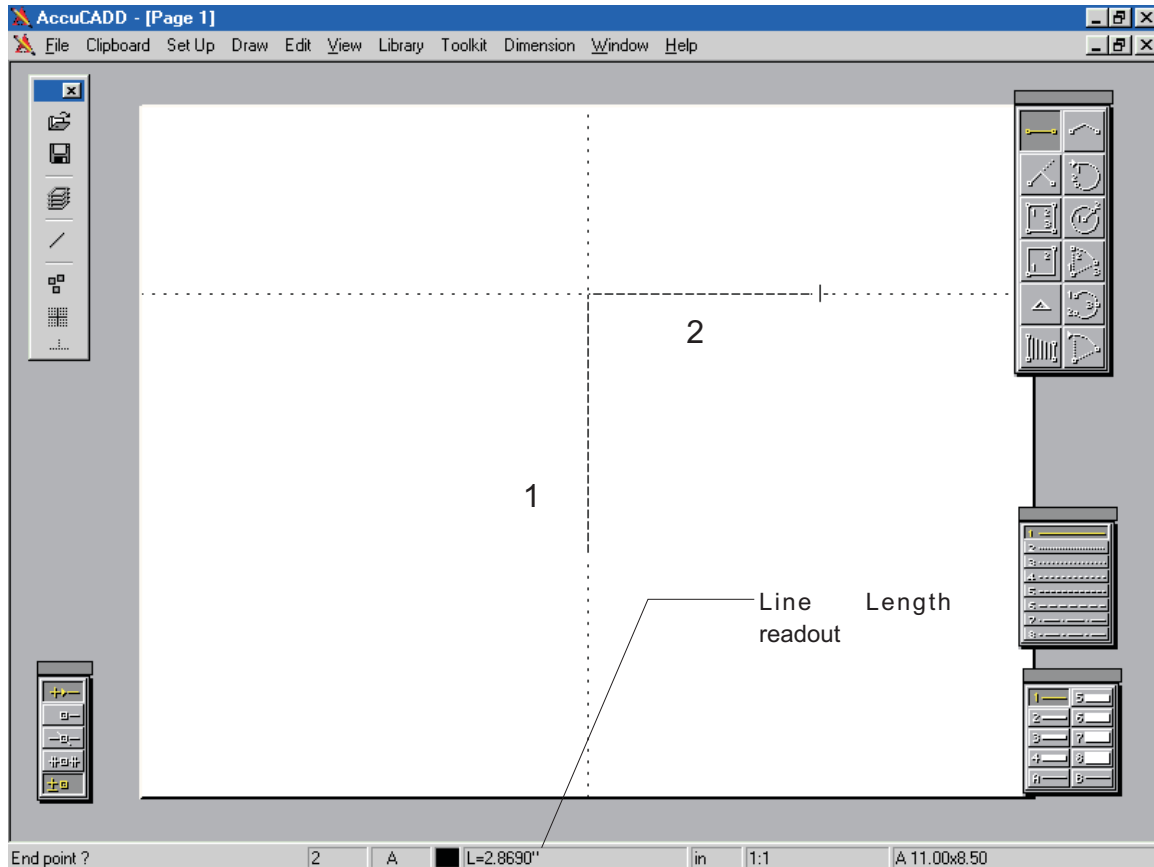

Figure 3: Continuous reporting of dimensions
[] Keep an eye on the dimension display at the bottom of the screen, move the + cursor vertically up from the triangle about 3 in., then “touch” to draw line (1), as in Figure 3.